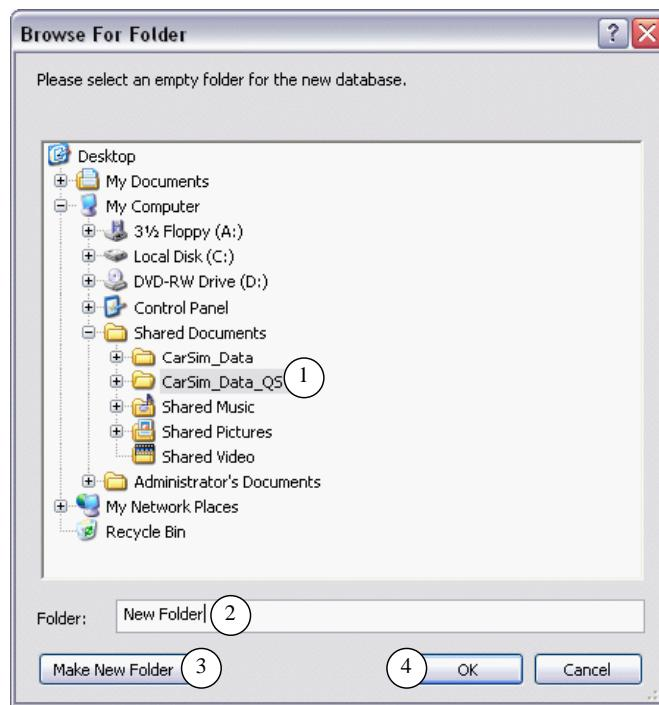

Figure 5. Create and select an empty folder for the new CarSim database.
5. CarSim will ask you to browse for a folder for the new database (Figure 5).